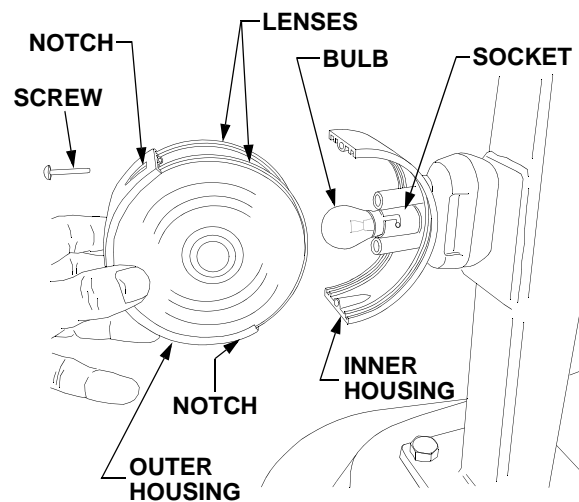

Figure 36
- Grasp the outer half of the light housing and both the front and rear lenses. Accessing the screws from the notches at the top and bottom of the outer housing, remove the two screws fastening the outer and inner housings together. See Figure 36.